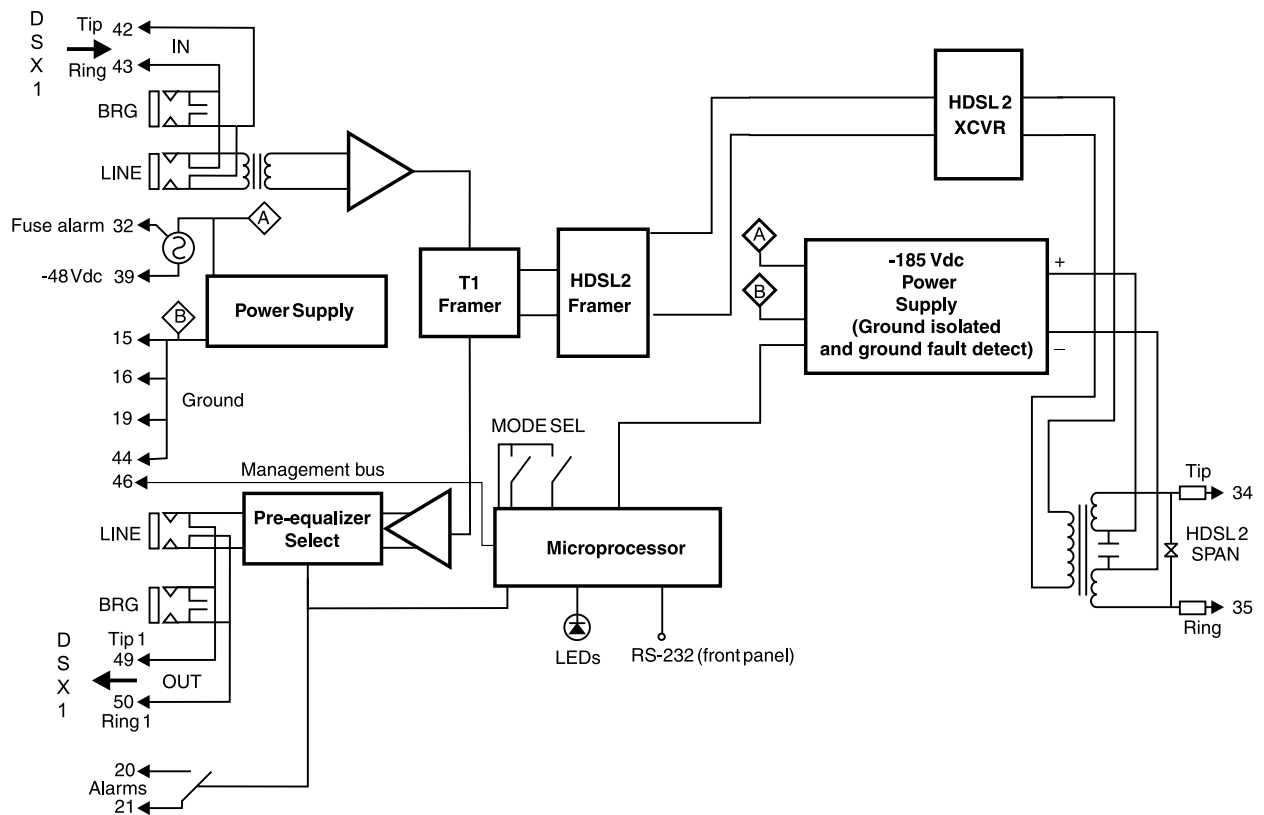

Figure 32. H2TU-C-231 List 1 Block Diagram
A block diagram of the H2TU-C-231 is shown in Figure 32. The H2TU-C-231 receives a 1.544 Mbps DSX-1 data stream from the DSX-1 digital cross-connect interface. The H2TU-C contains a DS1 frame synchronizer controlled by an 8-bit microprocessor that determines the type of framing on the DS1 stream and synchronizes to it. The H2TU-C recognizes SuperFrame (SF) or Extended SuperFrame (ESF) framing. When the data is unframed, the H2TU-C arbitrarily defines a frame bit.